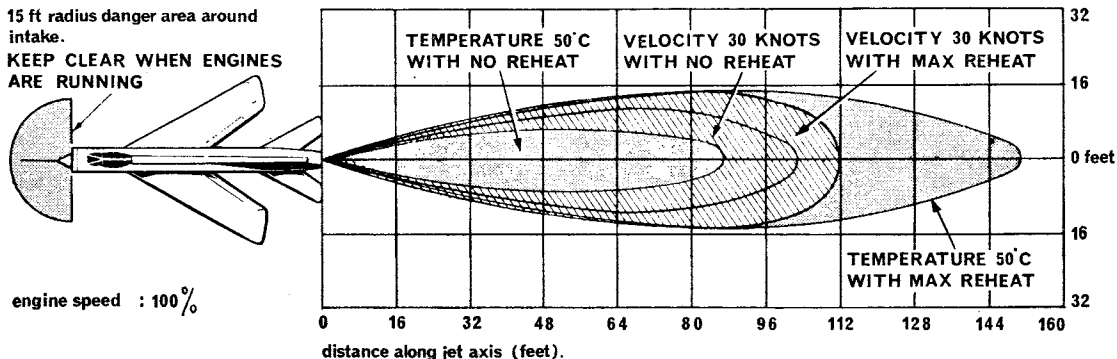

Fig 4 Jet engine danger zones
8. **Aircraft danger zones.** Tradesmen who work on or near aircraft must be fully aware of the dangers due to propeller blades and jet engine exhausts. When an aircraft engine is running, and during engine starting, always keep well clear of the aircraft. Special care must be taken with turbo-prop aircraft where although the engine may not be running the wind may cause the propeller to rotate. With jet engines the danger zones extend to the front and rear of the engines (see Fig 4). Extreme caution is needed when approaching a helicopter with its engines running or about to start. The rotor blades may drop suddenly or the fuselage may swing taking the tail rotor round in an arc.